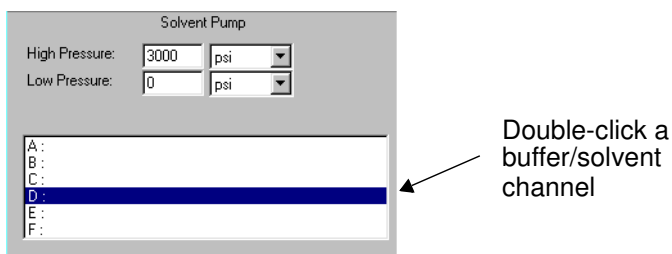

Figure 4-13 Buffer/Solvent Channels
2. Double-click any of the **buffer/solvent channels (A through F)** in the Solvent Pump section (Figure 4-13).